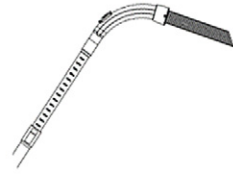

Fig 3
3. Connect the metal tube to the curves end of the hose. (Fig 3)